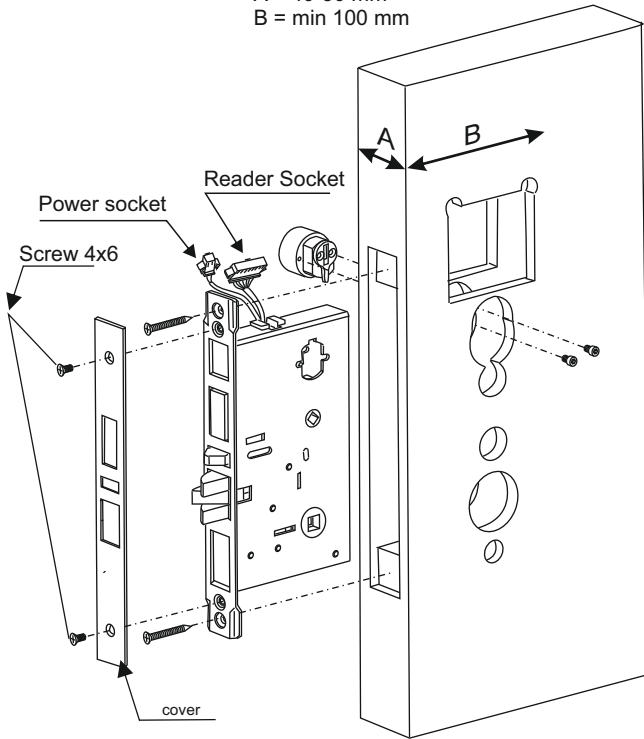

Fig.2
2. Install the lock as per Fig. 2.